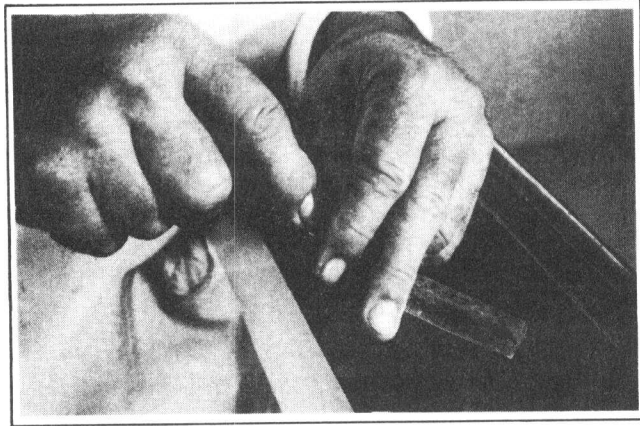

Figure 4-4. Trimming Patch
5. When the patch feels rubbery to touch, (10 - 15 minutes), trim the patch flush with the surface, and then allow to cure completely (30 - 60 minutes). Patch will shrink slightly as it cures, making a depression. See Figure 4-4.